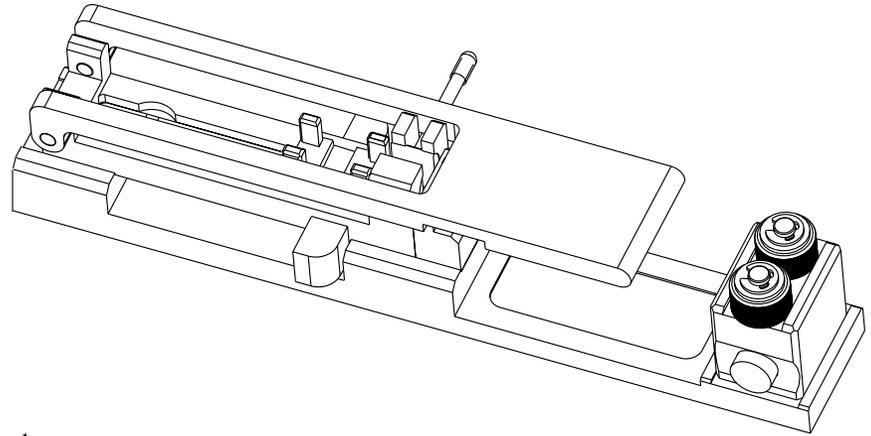

Figure 1
**1.1** This section describes the components and maintenance of the TL-UC01 UniCam Installation Tool (Figure 1). As use of the tool is connector and fiber-specific, refer to the connector sections of this manual for installation instructions.